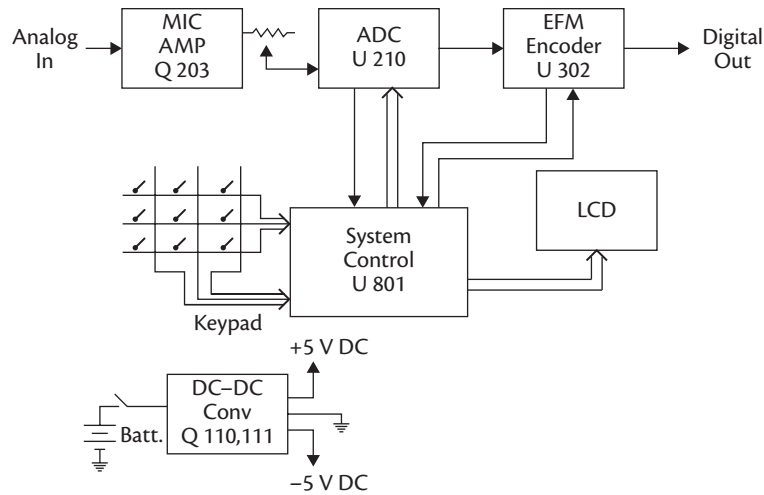

FIGURE 8-1 Block diagram.
- *Block diagram.* This lays out the device by the function of each section and its basic interconnections. It does not show individual components or specific connection points. It's the most general, conceptual view, analogous to a map showing cities and route numbers for major highways between them but not street-level detail (Figure 8-1).